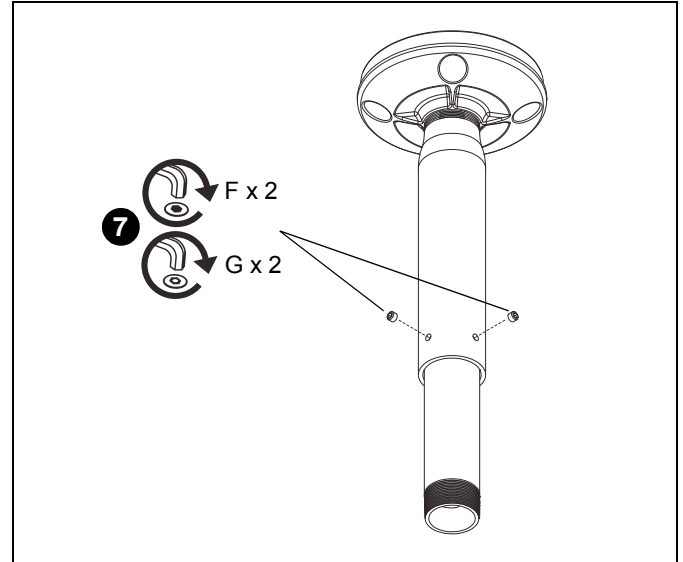

**Figure 3**
- Using key (J), loosely install screw (C) through lock washer (D), flat washer (E), and outer column (B) into adjustment hole in inner column (A) (See Figure 3).
- Adjust column (A or B, as applicable) to desired length, then rotate and lock into position (See Figure 3).
- Tighten screw (C) using key (J) (See Figure 3).